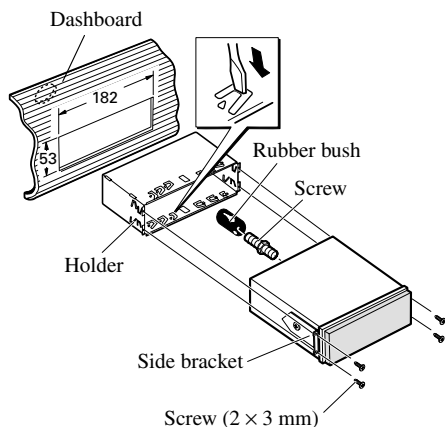

Fig. 16
2. Install the unit into the dash-board. (Fig. 16)